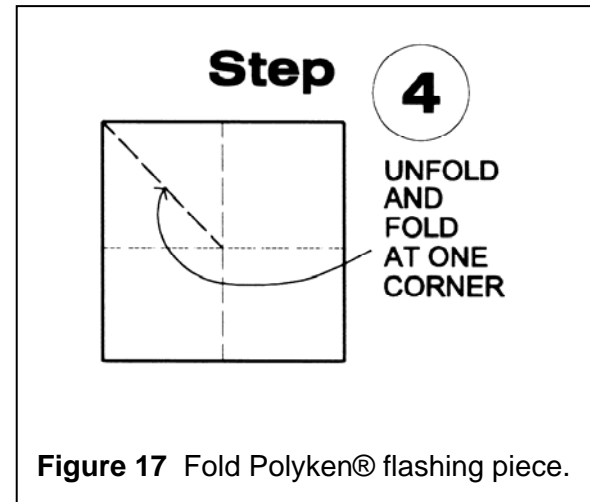

Figure 17 Fold Polyken® flashing piece.
Step 4. Unfold the Polyken® or Nashua® flashing tape and select a corner to crease to the middle of the square. See Figure 17.